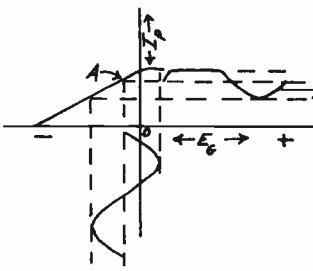

FIG. 9-15. DISTORTION IN CLASS A OPERATION CAUSED BY TOO LITTLE BIAS.
(2) Improper grid bias. The result of operating the amplifier with too little grid bias is shown in Fig. 9-15. The low bias places the operating point of the tube at the top of the curve instead of the middle of the curve. This causes the positive peaks of the signal voltage to drive the grid positive and draw grid current. The resulting distortion is a flattening or clipping of the positive peaks of the output signal.